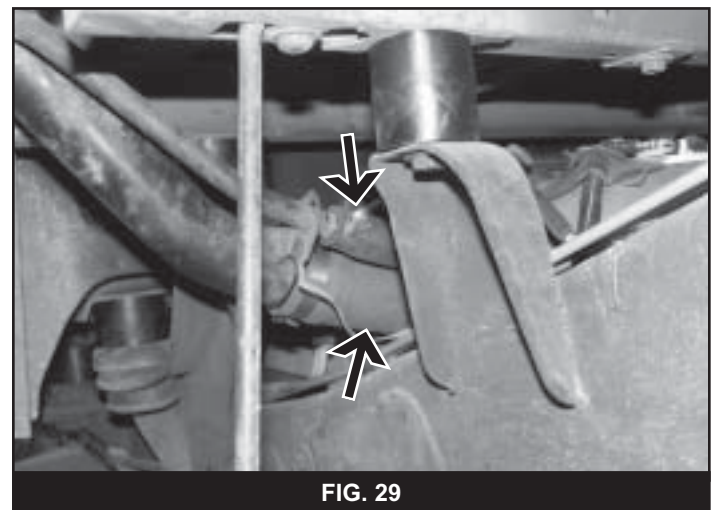

FIG. 29
58. Install the filler neck assembly in the vehicle and attach the filler and vent hose to the fuel tank with the provided hose clamps (Fig 29).